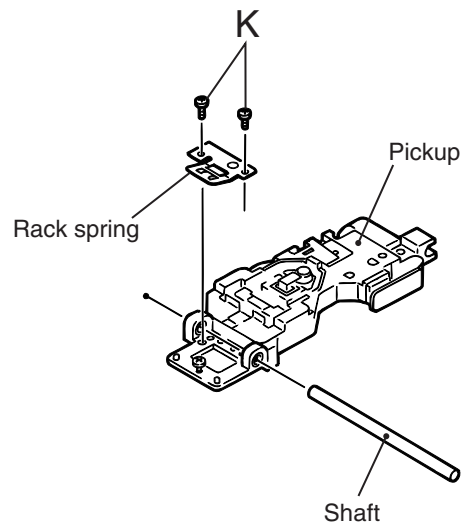

Fig.18
■Removing the pickup (See Fig.18)